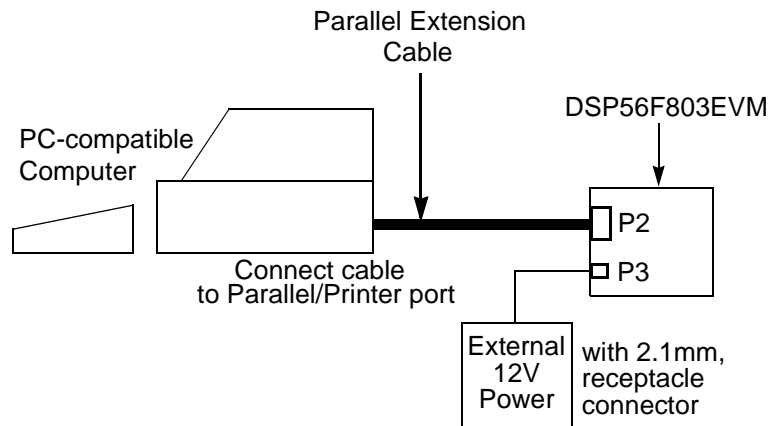

Figure 1-3. Connecting the DSP56F803EVM Cables
An interconnection diagram is shown in Figure 1-3 for connecting the PC and the external 12V DC power supply to the DSP56F803EVM board.
2. Connect the other end of the parallel extension cable to P2, shown in Figure 1-3, on the DSP56F803EVM board. This provides the connection which allows the host computer to control the board.
4. Connect the 2.1mm output power plug from the external power supply into P3, shown in Figure 1-3, on the DSP56F803EVM board.